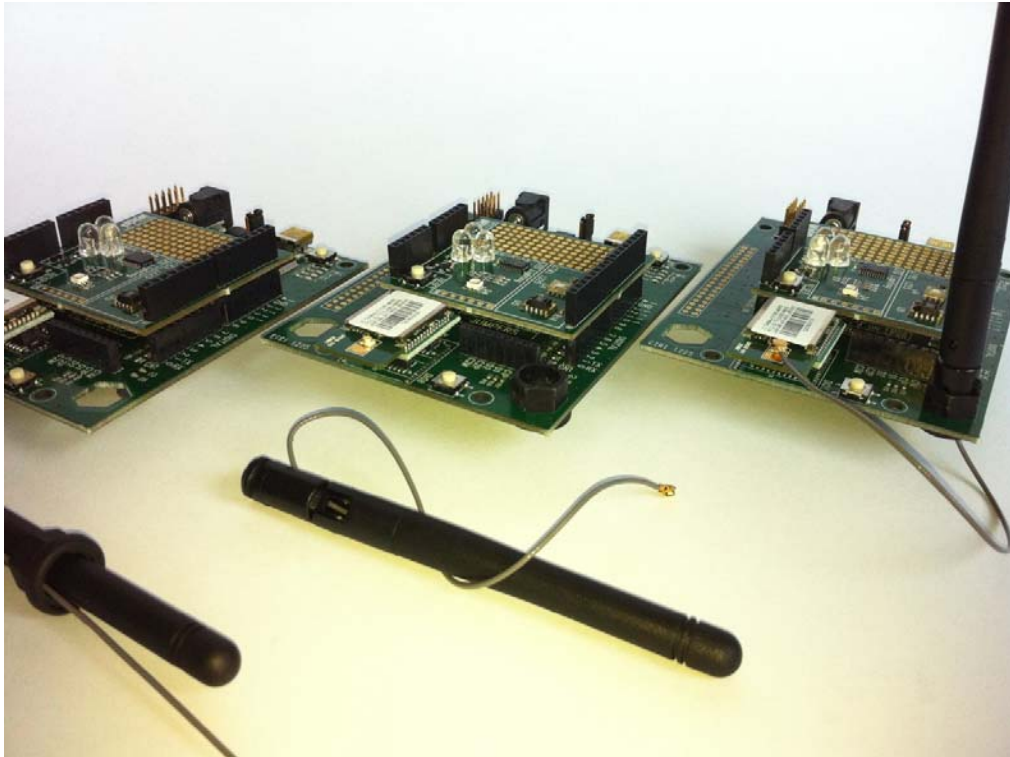
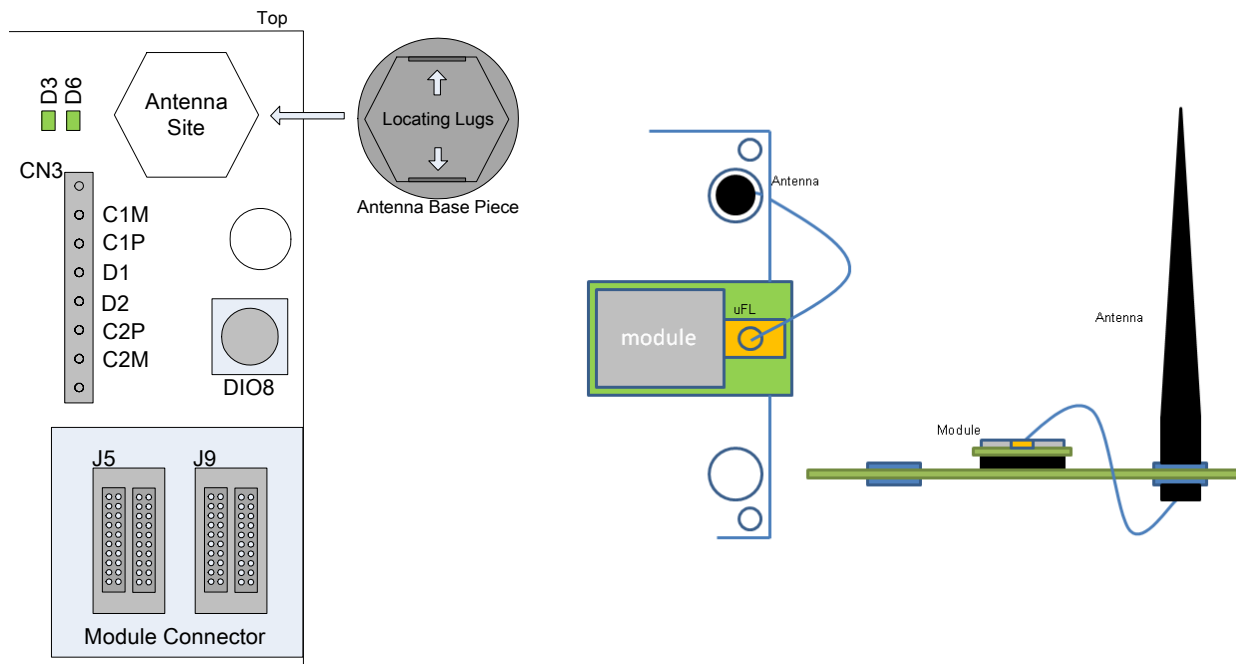

Figure 19: Stages of Antenna Mounting
Figure 20: Antenna Mounting and Connection
The JN5168 modules with uFL connectors must be used with the supplied antennas. An antenna is provided with a 7-cm fly lead attached, which allows the antenna to be connected to the module. To mount and connect an antenna, proceed as follows (also refer to Figure 19 and Figure 20):
2. Push the antenna base piece into a hexagonal hole on the Carrier Board from the rear of the board until the collar is flush with the board. *The 'locating lugs' of the antenna base piece should be parallel to the top or bottom of the board, as illustrated in Figure 20.*